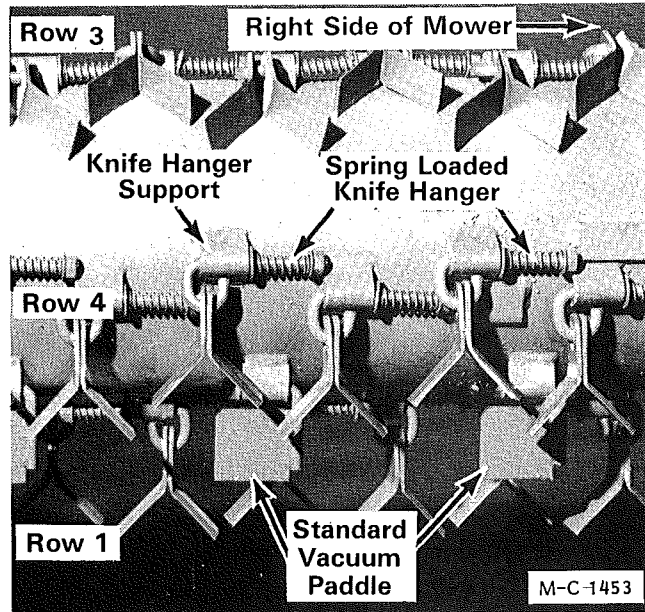

Figure 17
**IMPORTANT:** To get the correct overlap of knives, the hangers must be installed as follows: (See Figure 17.)
1. The standard vacuum paddles, Figure 17, can be removed by removing the locknut and sliding the vacuum paddle out of the support.